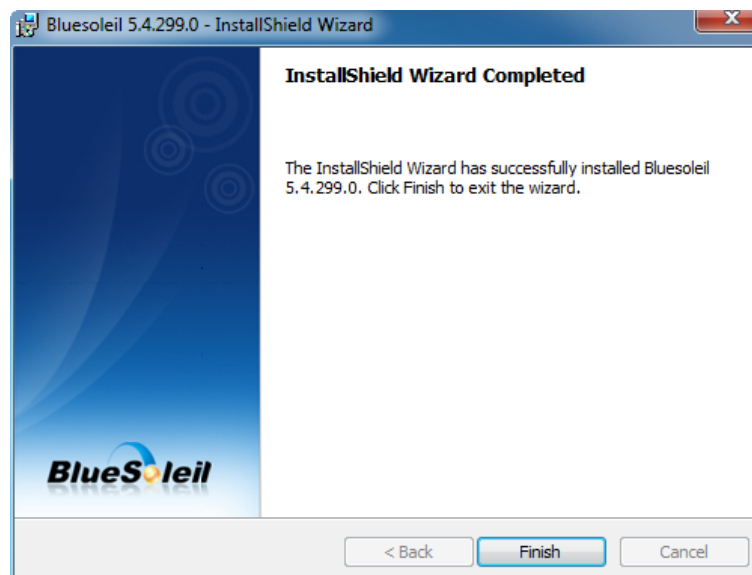

Figure 5-45: Bluetooth Driver Complete Installation Screen
Step 12: When the installation process is complete, click **FINISH**. See **Figure 5-45**.